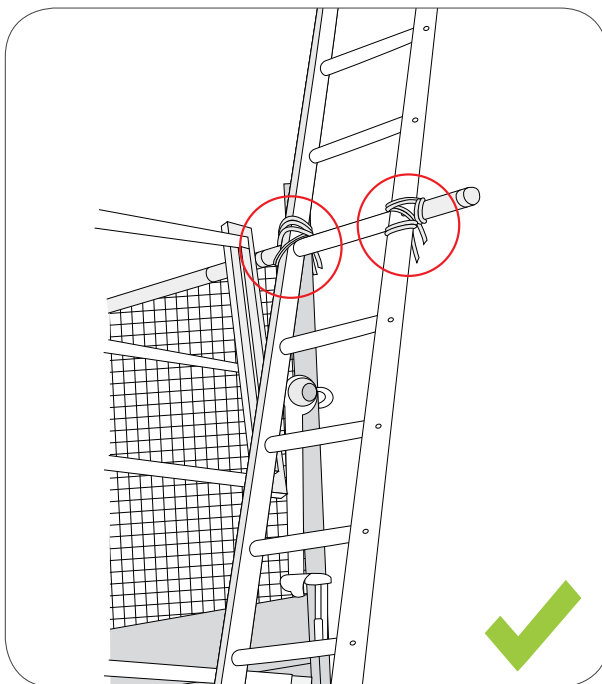

Figure 11.5: An access ladder with secure handhold and both stiles tied.
- Tie the ladder to a suitable point making sure that both stiles are tied (see Fig 11.5).